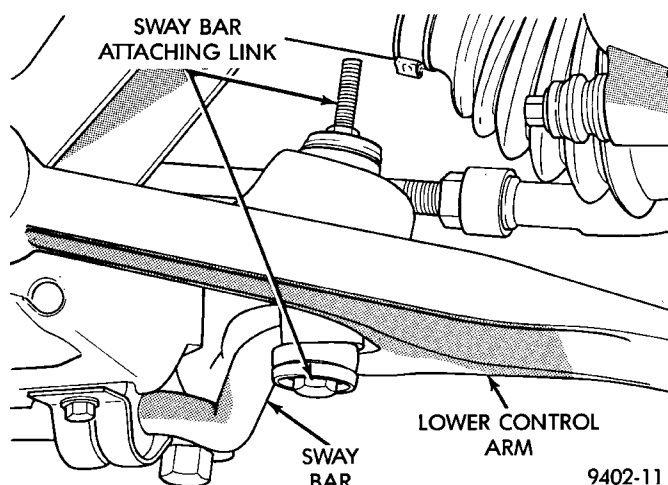

Fig. 33 Stabilizer Bar Link To Lower Control Arm Attachment
(3) Remove the 2 attaching links connecting the stabilizer bar to the lower control arms (Fig. 33).